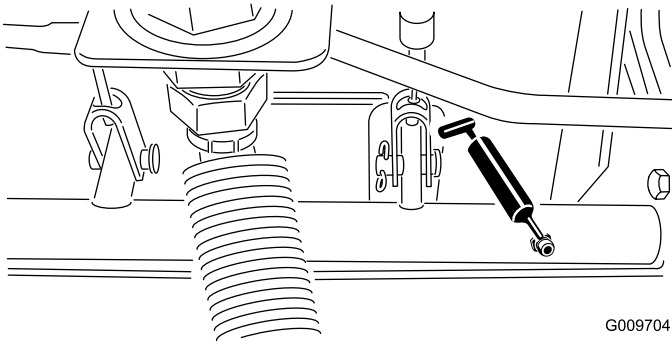

Figure 112
- Brake shaft pivot bearings (5), refer to Figure 112